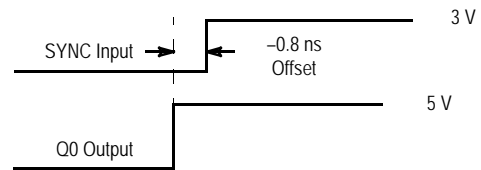

Figure 3. Depiction of the Fixed SYNC to Q0 Offset (t_{PD}) Which Is Present When a 470 KΩ Resistor Is Tied to V_{CC} or Ground
2. A 470 KΩ or 1 MΩ resistor tied to either Analog V_{CC} or Analog GND, as shown in Figure 3, is required to
ensure no jitter is present on the MC88LV926 outputs. This technique causes a phase offset between the SYNC input and the Q0 output, measured at the pins. The t_{PD} spec describes how this offset varies with process, temperature, and voltage. The specs were arrived at by measuring the phase relationship for the 14 lots described in note 1 while the part was in phase-locked operation. The actual measurements were made with a 10 MHz SYNC input (1.0 ns edge rate from 0.8 V to 2.0 V). The phase measurements were made at 1.5 V. See Figure 3 for a graphical description.
to pull up the $\overline{RST_OUT}$ pin when it goes into the high impedance state (after the MC88LV926 is phase-locked to the reference input with $\overline{RST_IN}$ held high or 1024 'Q' cycles after the $\overline{RST_IN}$ pin goes high when the part is locked). In the t_{PLZ} and t_{PZL} specifications, a 1 K Ω resistor is used as a pull-up as shown in Figure 3.